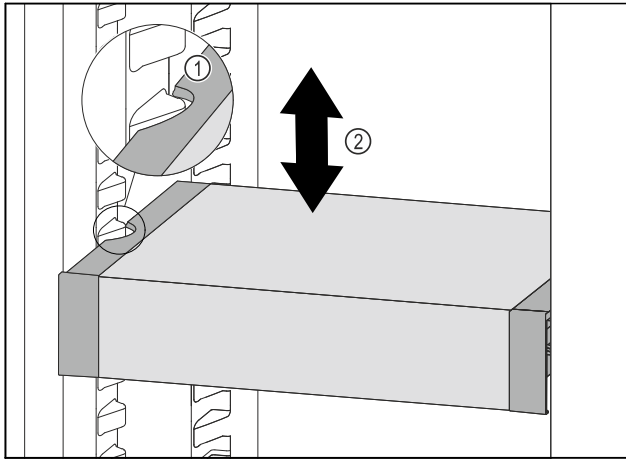

Fig. 67
- Pull VarioSafe forwards until the recesses in the side of the VarioSafe are at the level of the support rib in the refrigerator compartment. Fig. 67 (1)
- Move VarioSafe up or down in the refrigerator compartment until the desired height is reached. Fig. 67 (2)